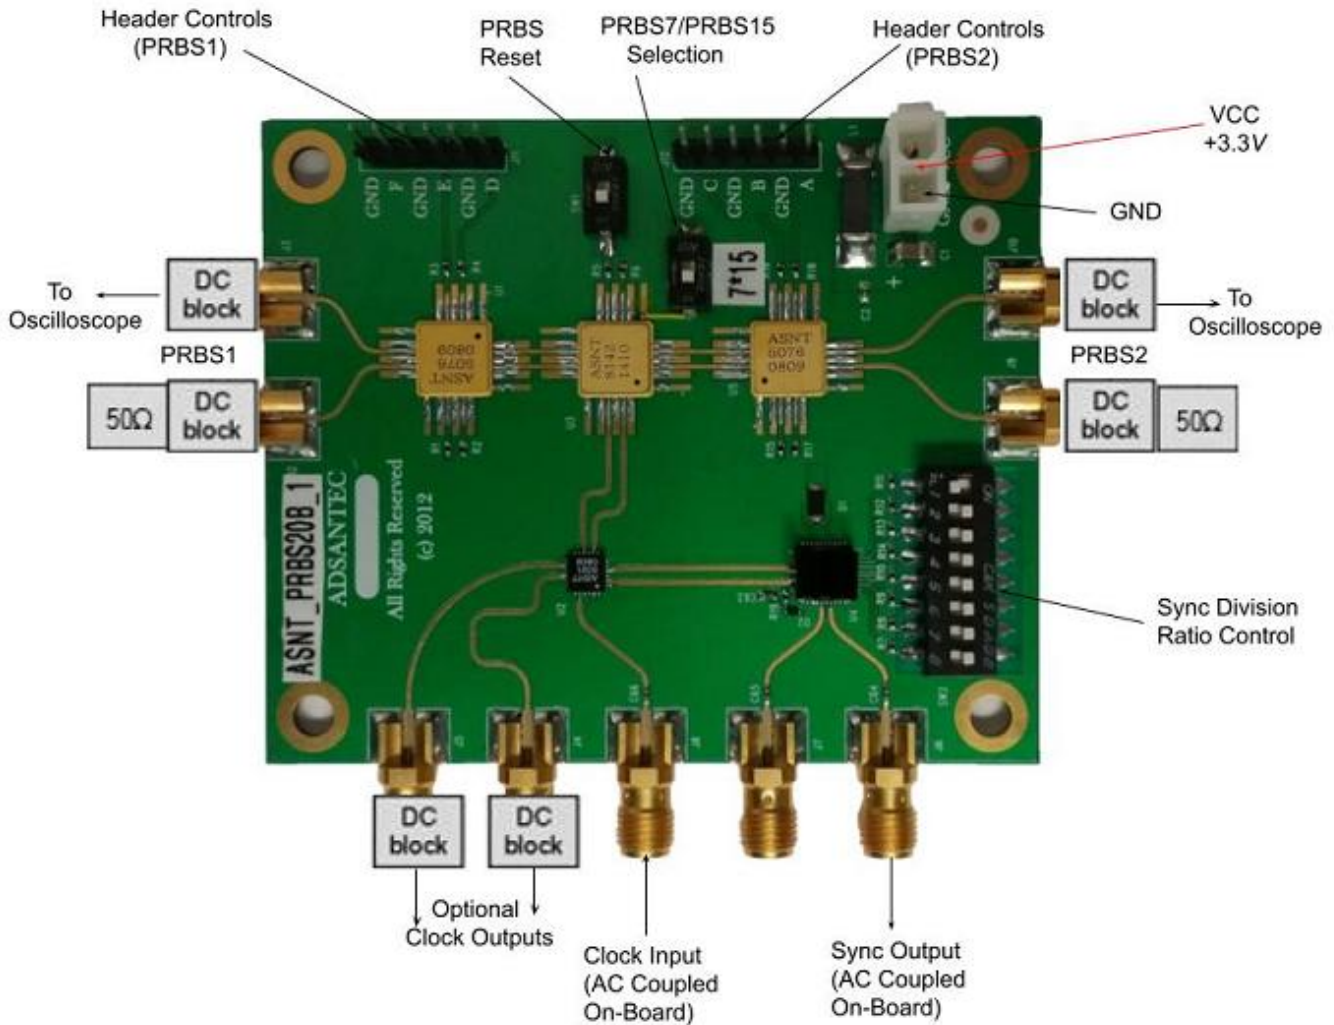

Fig. 5. Recommended Board Configuration Diagram
14. **Fig. 5** on the following page provides an example of how this board can be connected.